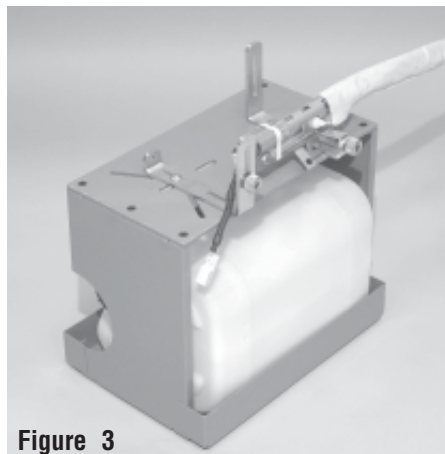

Figure 3
- 3) Secure Airbag module to the mounting adapters using the included 6mm bolts and nuts (see Figure 3). Make sure the airbag is laid out completely straight (not curled) to prevent any “whipping” effect during deployment.